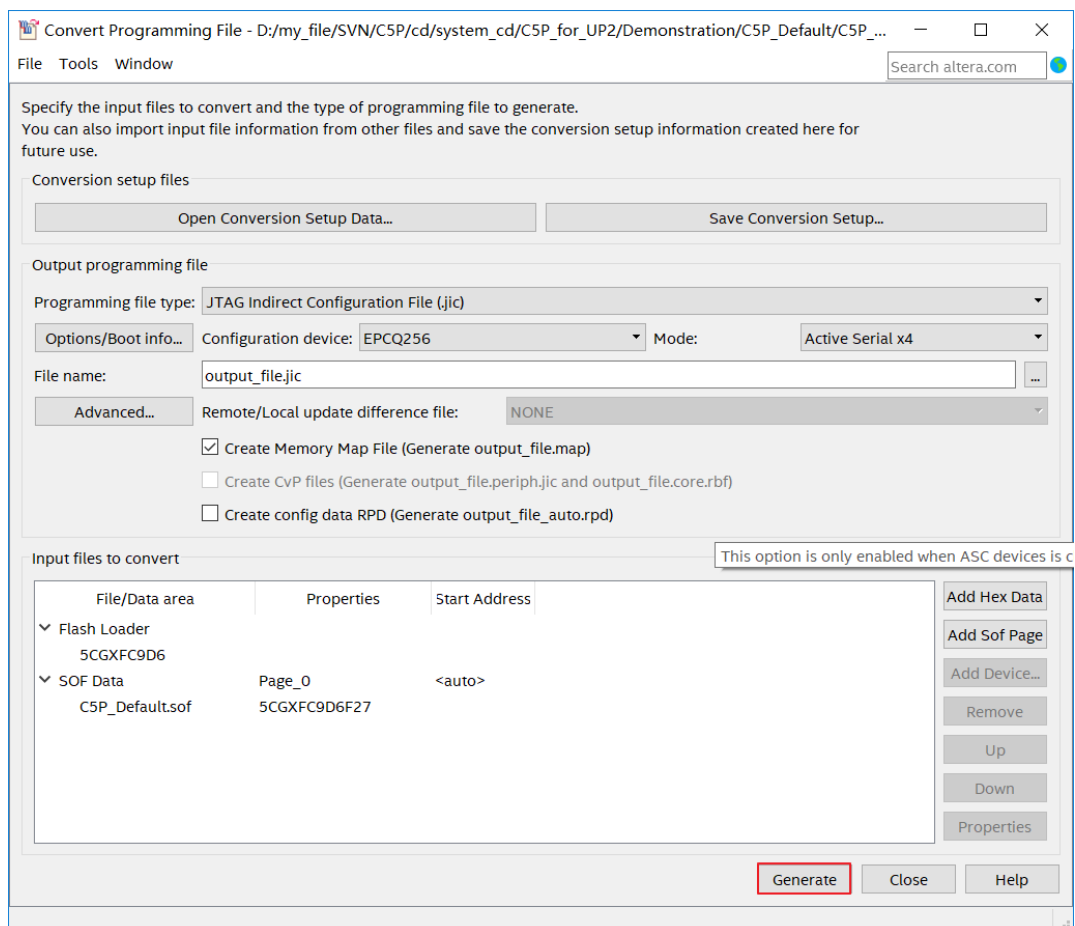

Figure 6-5 Convert Programming Files Page
13. Click **OK** and the Convert Programming Files will appear, as shown in **Figure 6-5**.